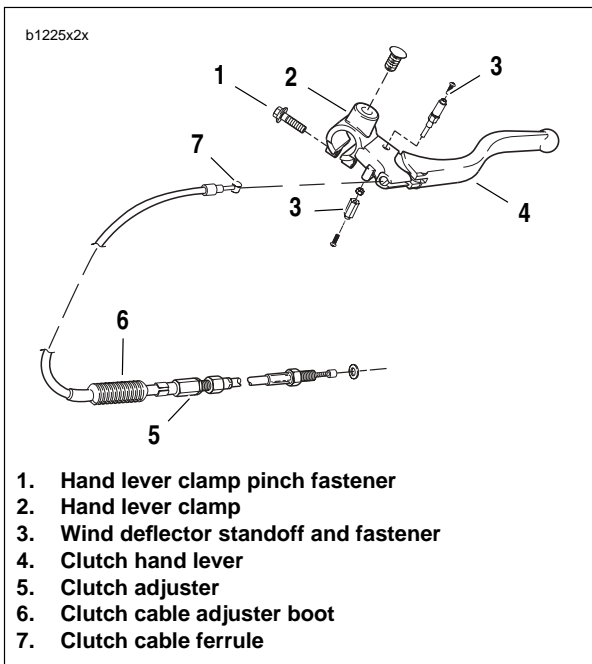

Figure 2-105. Clutch Hand Control Assembly
10. See Figure 2-105. Connect clutch cable ferrule (7) to hand lever (4).